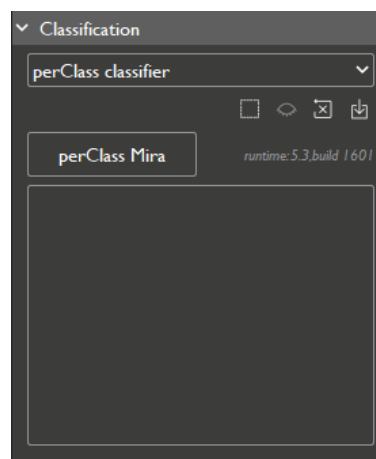

Figure 96 View of the classification panel when “perClass classifier” is selected
- Step 1** - Select “perClass classifier” using the pull-down menu (see Figure 96).
- Step 2** - Click on “perClass Mira” button to open the perClass Mira software (see Figure 96).